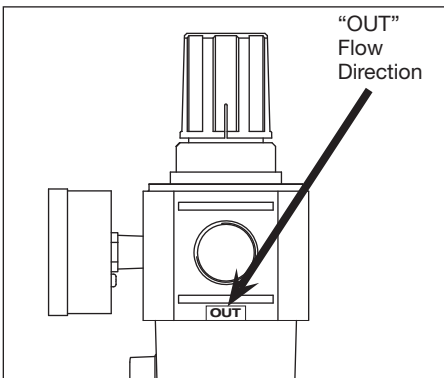

Figure 2 - Detail showing location of "OUT" flow direction
1. Locate the air flow direction "IN" and "OUT" (See Figure 2, detail showing "OUT"). These indicate the direction of the air flow.
4. Verify "OUT" faces the outlet, indicating the direction of the air flow. (See Figure 2.)